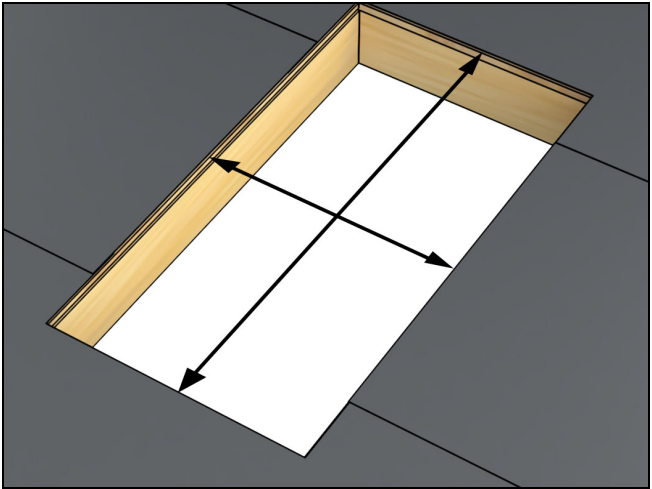

Figure 29
2. Cut rough opening according to the measurements in the chart. Build curb according to measurements in the chart. Use lumber with an actual thickness of 1½" (38) and a minimum height of 3½" (90). Curb height and attachment should comply with building codes and local regulations and be secure enough to transfer the skylight loads to the framing members. See Figure 29.